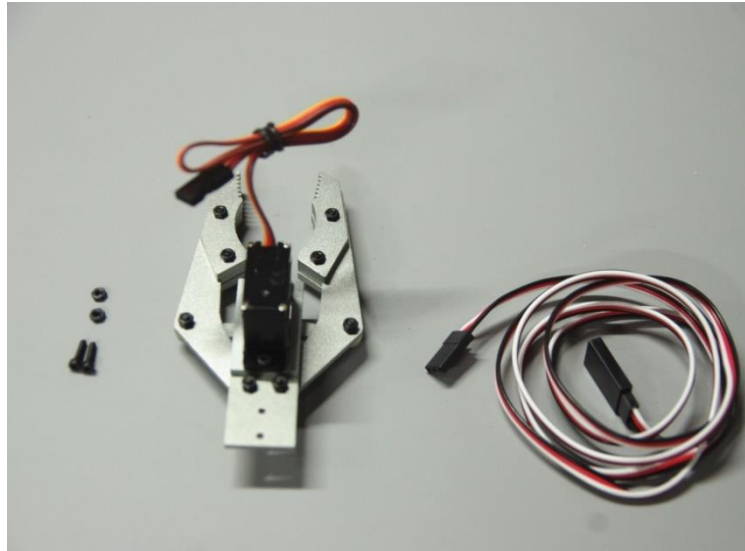

Figure 2.5 Gripper components
1. Components for the gripper is shown in Figure 2.5: two **M2×8 bolt** and **M2 nut**, **Gripper**, **Servo Extension Cable**.